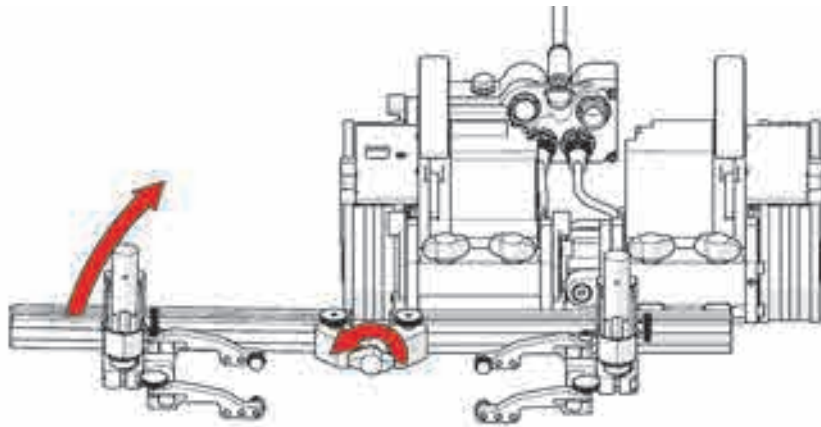

Figure 4-120 Lift frame bar to avoid interference
2. Loosen the pivot wing knob and raise the frame bar to an angle greater than the surface to be scanned (see Figure 4-120 on page 184). Tighten the pivot wing knob and place the SteerROVER on the scan surface (see "Placement of SteerROVER on Inspection Surface" on page 60).